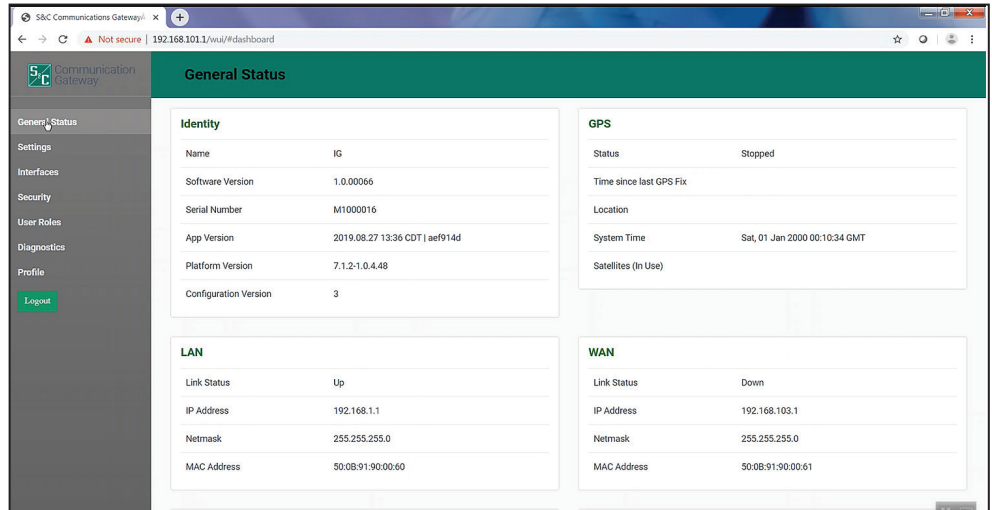

Figure 7. The top of the *General Status* screen.
**STEP 5.** With firmware version 2.1 and earlier, to skip this screen and keep the default password setting, click on an entry in the left menu. Figures 7 and 8 show the *General Status* screen.
The *General Status* screen is comprised of the Identity, GPS, LAN, WAN, Wi-Fi Access Point, and Wi-Fi Connected Clients panels. The Identity panel contains six fields: **Name**, **Software Version**, **Serial Number**, **App Version**, **Platform Version**, and **Configuration Version**. The GPS panel contains five fields: **Status**, **Time Since last GPS Fix**, **Location**, **System Time**, and **Satellites (In Use)**. The LAN and WAN panels contain four fields each: **Link Status**, **IP Address**, **Netmask**, and **MAC Address**. See Figure 7 on page 9. The Wi-Fi Access Point panel contains four fields: **Link Status**, **IP Address**, **Netmask**, and **MAC Address**. The Wi-Fi Connected Clients panel contains six fields: **MAC Address**, **IP Address**, **Average RSSI**, **Connect Time**, **Authorized**, and **Authenticated**. See Figure 8 on page 9.